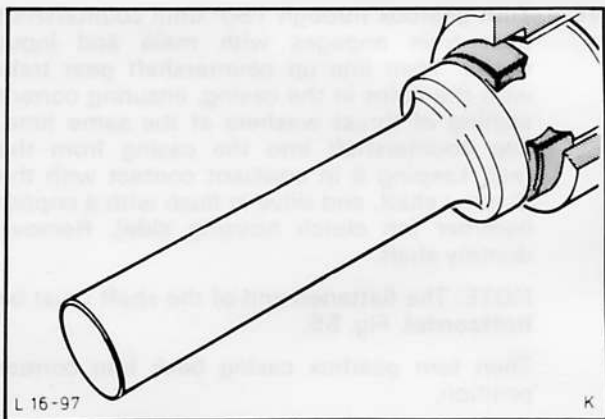

Fig. 59. Fit oil seal with Special Tool No. 16-015
51. Coat extension housing oil seal with multi-purpose grease and fit seal with Special Tool No. 16-015, Fig. 59.